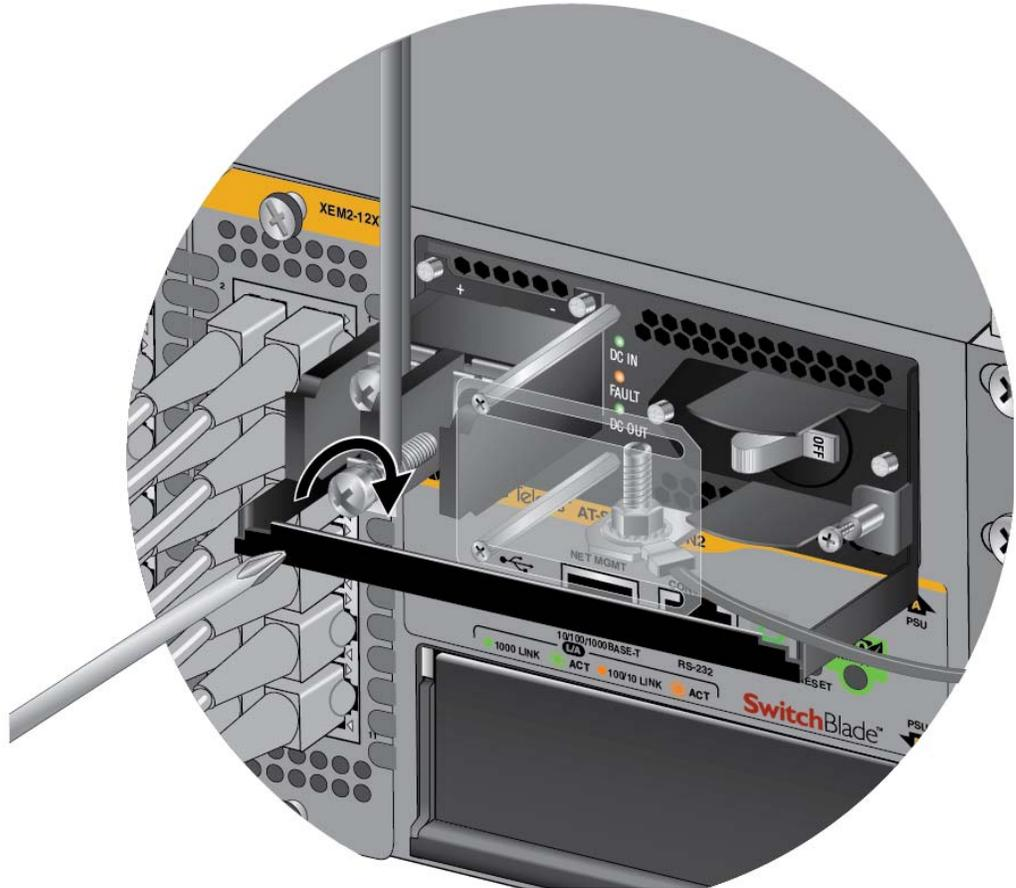

Figure 95. Connecting the Negative Lead Wire with Bare Wire
5. Wrap the negative lead wire clockwise around the remaining terminal screw and secure the screw and wire to the negative terminal connection on the terminal block with a #3 Phillips-head screwdriver, as shown in Figure 95 on page 147. The negative terminal is on the right.